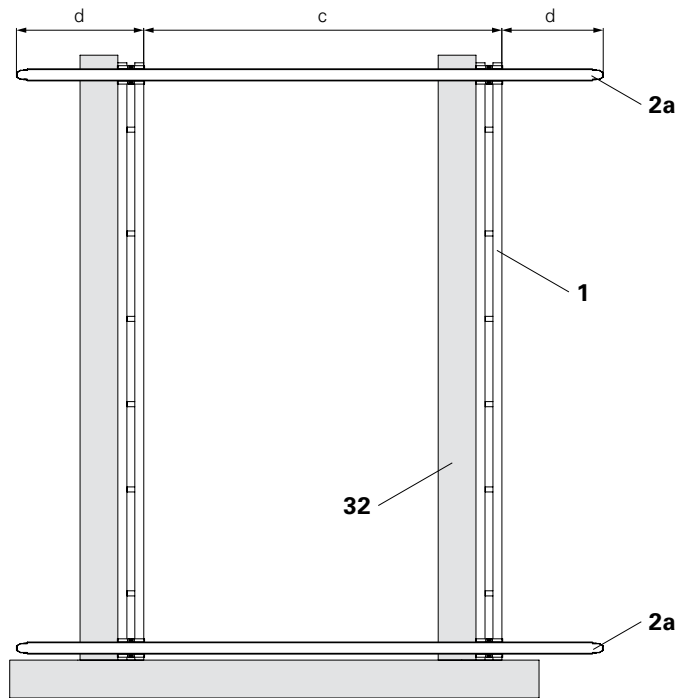
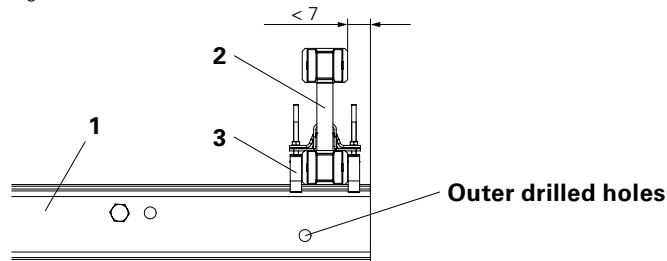

Fig. B2.01
Fig. B2.02
1. Align the Platform Beam BR (**1**) along the limit stop plank (**32**). The external holes lie below. (Fig. B2.01 + B2.02)
2. Place the two outer girders (**2a**) on the Platform Beam BR (**1**). The distance of the girder to the edge is max. 7 cm. (Fig. B2.02) The overhang  $d$  is the same on both sides. (Fig. B2.01)
4. Position and align all other girders (**2b**) according to project-specific specifications on the Platform Beams BR (**1**) and secure them using hook straps (**3**). (Fig. B2.02 + B2.03)